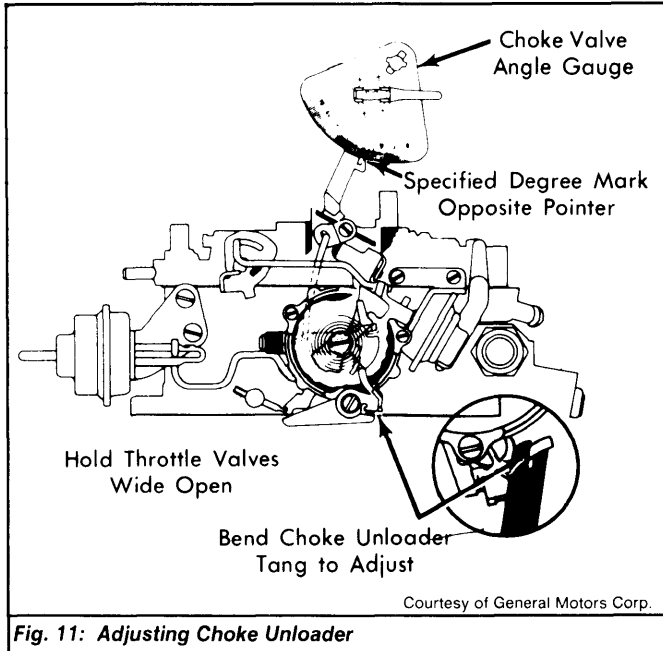

Fig. 11: Adjusting Choke Unloader
- 1) Adjust automatic choke. Hold throttle valves wide open. See Fig. 11. If engine is warm, close choke valve by pushing up on vacuum break lever tang. Hold in position with a rubber band.